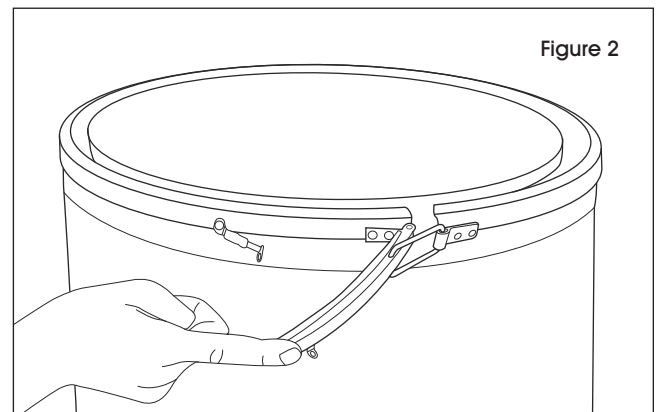

Figure 2
3. Open handle and push backwards, freeing up the lockband. (See Figure 2)